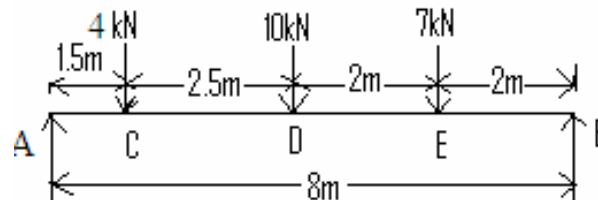

Figure.2
- b) Draw the Shear force and bending moment for the simply supported beam shown in Figure.2. [5+10]